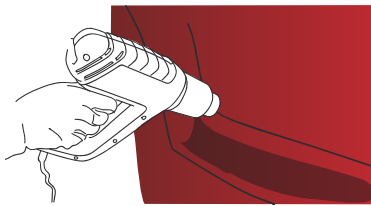

Figure 14
- › Once this step is completed, heat again all the hollow parts which have undergone heavy deformation between 80 °C and 90 °C (176 °F and 194 °F) to thermoform the product definitively. (FIG. 14)